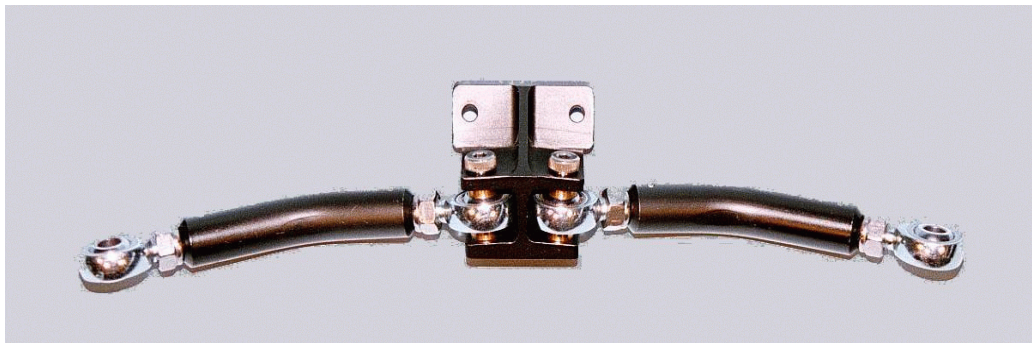

Figure 8.4- Assembled Clavicle /Upper Sternum
2. Repeat step one for the left clavicle assembly. The completed clavicle / upper sternum assembly is shown in **Figure 8.4**.